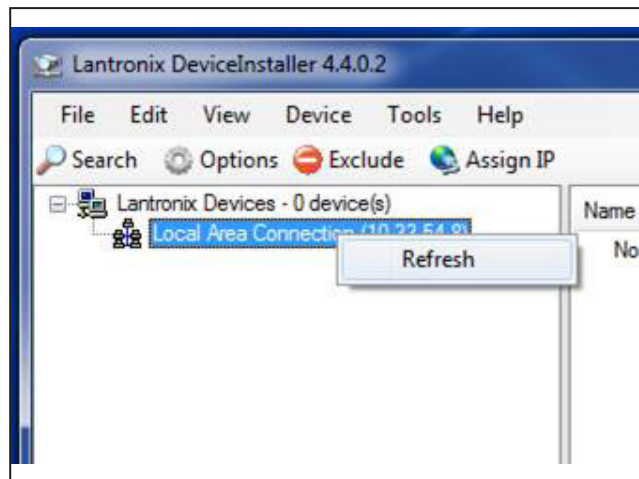

Figure 21 LanTronix DeviceInstaller Screen
1. From the Lantronix DeviceInstaller, right-click on the appropriate connection and select refresh (Figure 21).